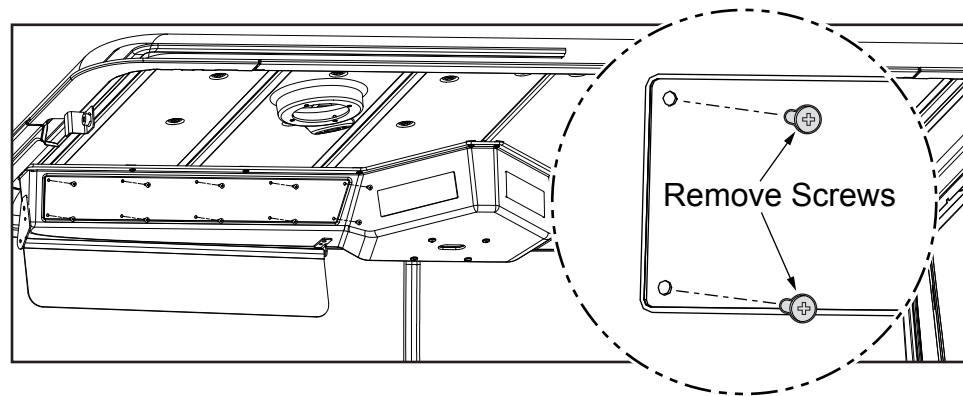

Figure 1
3. Locate and remove the (20) screws from the overhead console covers, set the screws and covers aside for reinstallation (See *Figure 1*).